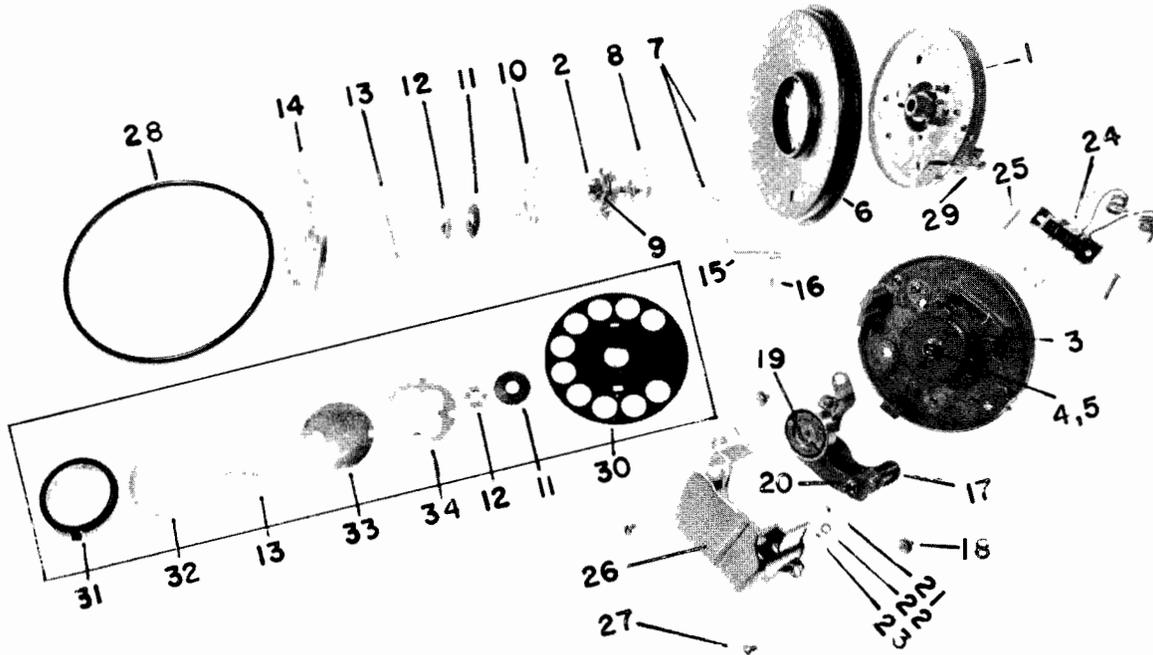

Fig. 3-1 COMPONENT PARTS - EXPLODED VIEW
3.1 Dials should be disassembled and assembled only when necessary for maintenance purposes. The procedures given in the following paragraphs, which apply specifically to the types 19 and 28 units, should be followed. The exploded view of Fig. 3-1 shows the component parts of the type 19 dial.